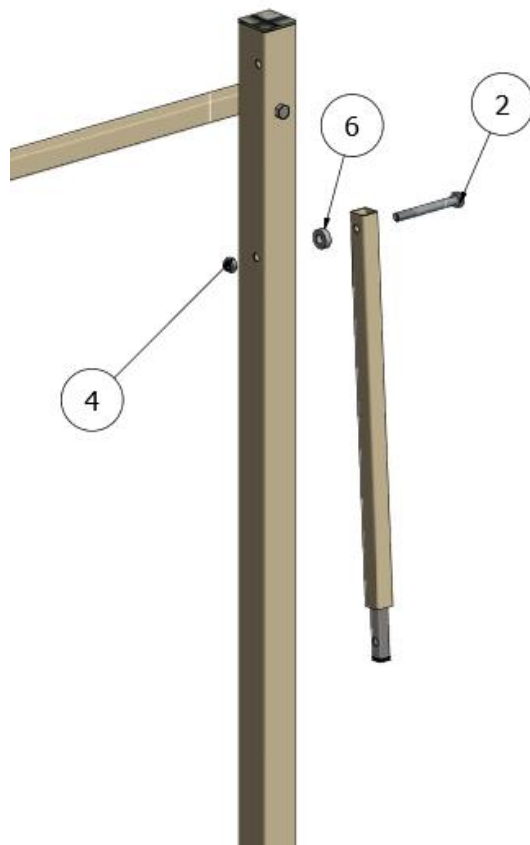

Figure 3 – Bolt Stay Assembly onto Leg
- Bolt the Stay assembly to the OUTSIDE OF THE LEG (see Figure 3) using Bolt (2), Lock Nut (4), Nylon Spacer (6) with the “Oil” label facing the front